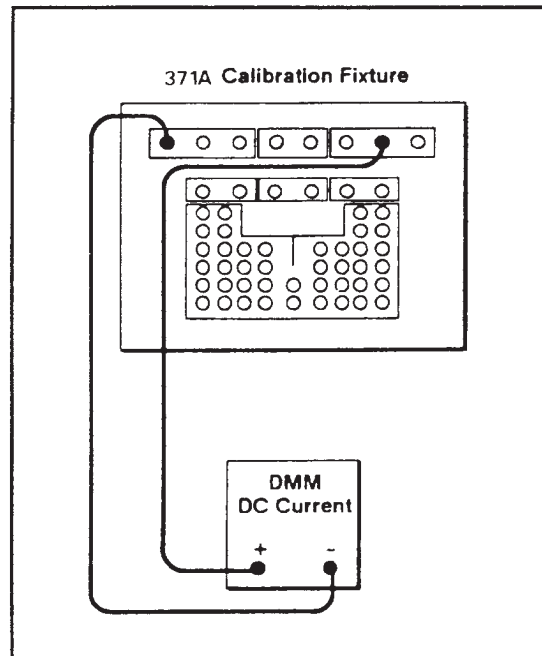

Figure 4-19. Setup for checking amplitude accuracy of normal step current source mode.
3. Connect the digital multimeter between the STEP GENERATOR CURRENT terminal and the COLLECTOR SUPPLY HIGH VOLTAGE terminal as shown in Figure 4-19, and close the protective cover.
- Connect the digital multimeter between the STEP GENERATOR CURRENT terminal and the COLLECTOR SUPPLY HIGH VOLTAGE terminal as shown in Figure 4-19, and close the protective cover.